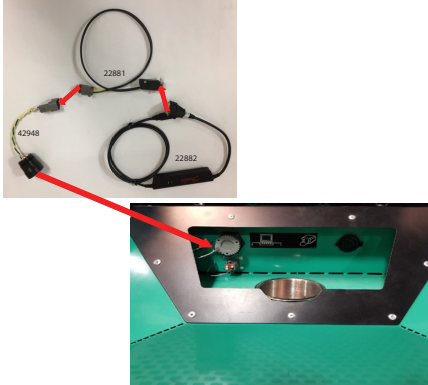

Figure 18. CAN Gateway Cable to Service Port
1. Plug the CAN Gateway cable to the trowel at the service port (Figure 18). Do not connect laptop at this time.